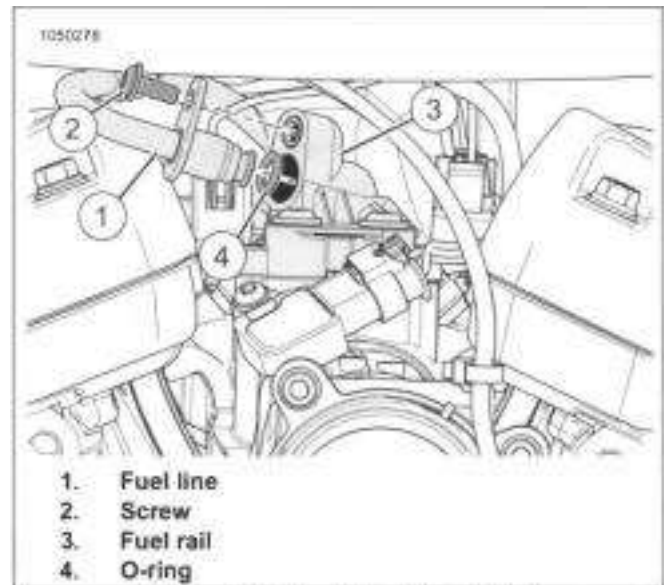
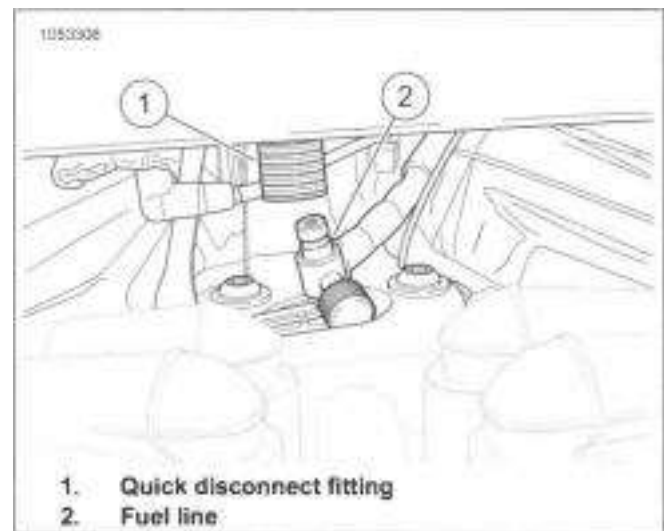

Figure 6-13. Fuel Line to Fuel Rail
Figure 6-14. Fuel Line to Fuel Tank
1. See Figure 6-14 Disconnect fuel line from fuel tank.
- a. Push up on sleeve of quick disconnect fitting (1).
- b. Remove fuel line (2) from quick disconnect fitting.
2. See Figure 6-13 Disconnect fuel line from fuel rail.
- a. Remove screw (2).
- b. Pull fuel line (1) away from fuel rail (3).
- c. Inspect O-ring (4) for damage. replace as necessary.
1. See Figure 6-13. Install fuel line to fuel rail.
2. See Figure 6-14 Install fuel line to fuel tank.
- a. Press up on sleeve of quick disconnect fitting (1).
- b. Connect fuel line (2) to quick disconnect fitting.